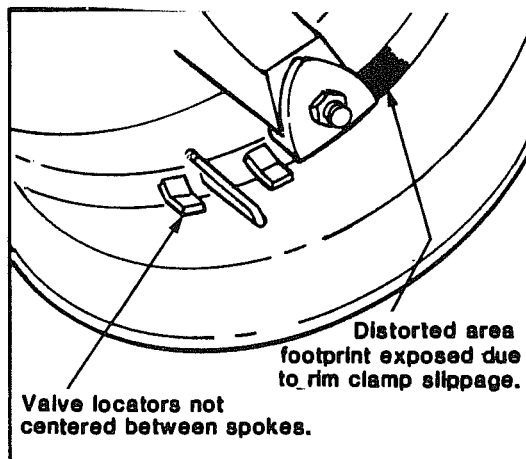

Figure III-12: Typical wear patterns associated with rim slippage.
- e. Check for rim slippage, typified by the illustration in Figure III-12. If rim slippage is indicated, it may be possible that an under-torque or overtorque condition exists. It is recommended that the rim spacer be replaced when rim slippage is indicated because of the difficulty in determining damage to rim spacers due to improper torque. To replace the rim spacer, follow the pertinent instructions given in section III.A in this manual. When replacing the rim spacer, check the mounting surfaces for excessive wear. If excessive wear exists, the wheel will need to be replaced.